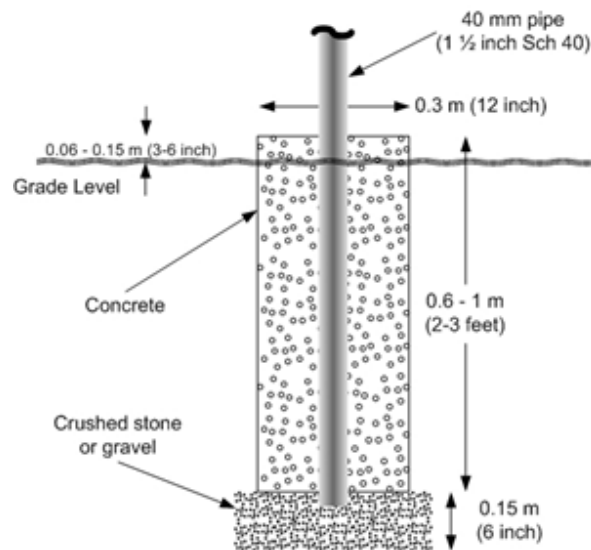

Figure 2.1.2-1 Site Preparation – Concrete Footer
- **Support Structure** - If the sensor is to be installed as a stand-alone instrument, prepare a concrete footer as shown in Figure 2.1.2-1. It is recommended that depth of the concrete footer is below the frost line to avoid heaving. When preparing for the concrete footer also plan for earth grounding, power wiring, and signal wiring
- The Sentry™ may also be installed on an existing structure such as a traffic pole or triangular tower using the optional 74050 Mounting Bracket. A customer provided boom arm structure may also be assembled from 1 ½ inch schedule 40 pipe & fittings as shown in Figure 2.1.2-2. The boom arm structure should be attached to the side of the triangulate tower with U-bolts or similar hardware. When selecting which side of the tower to use, make certain that the sensor sample volume is facing away from the tower and not over the boom arm while still aligning the receiver optics facing in a northerly direction or parallel with the roadway.